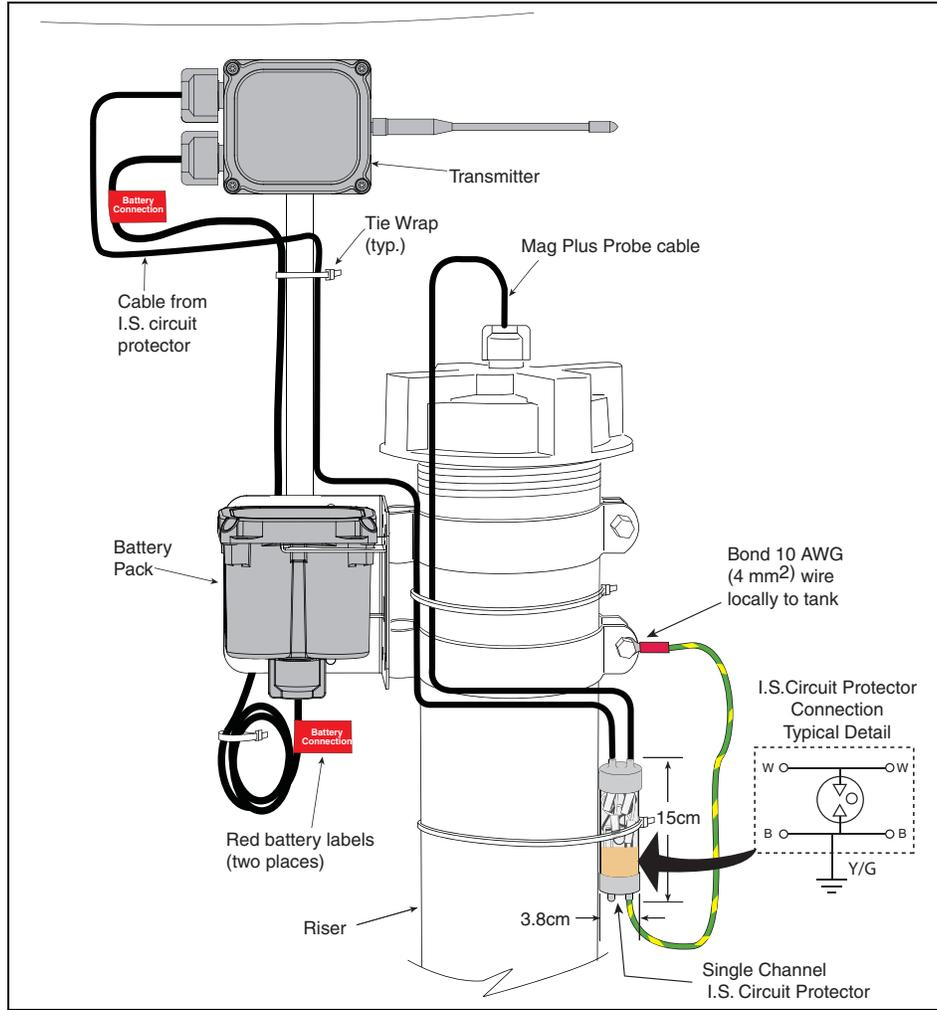

Figure 15. Example Wireless Mag Plus Probe Installation With Single-Channel I.S. Circuit Protector
An example wireless Mag Plus probe installation is shown in shown in Figure 15. Mount the I.S. circuit protector as close as possible to the entry point for the probe leader cable.
8.  Connect the green/yellow ground wire from the I.S. circuit protector to an appropriate tank ground (see Figure 15). In non-conductive tank installations, connect the green/yellow ground wire from the I.S. circuit protector to a grounding rod as per the local authority.